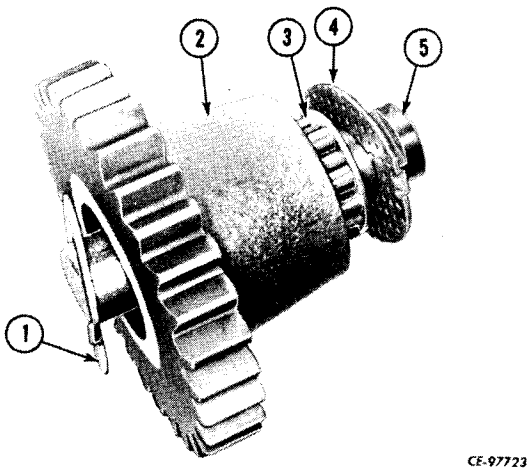

Figure 4-66
Use shaft (5, Fig. 4-66) to aid assembly of reverse countershaft gear (2). Install roller bearing (3) and thrust washers (1, 4) on each end of gear (2).